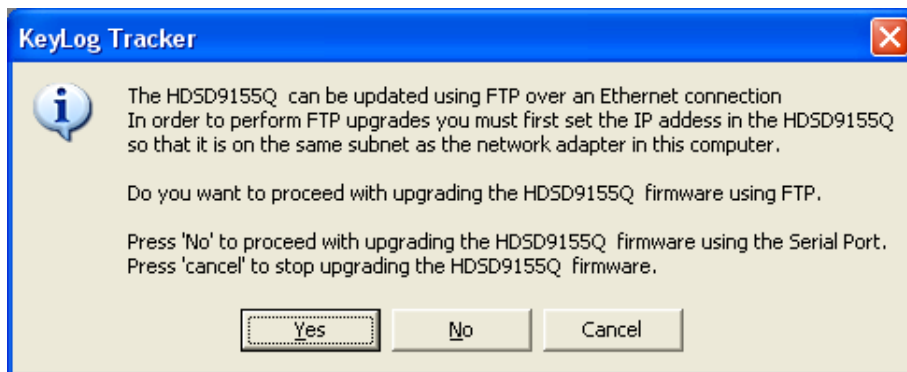

Figure 6-1: KeyLog Tracker
5. Use the BROWSE button to open the file dialog and choose the new firmware file. Typical filenames are in Figure 6-1. The build version of the firmware will be shown in the dialog box.